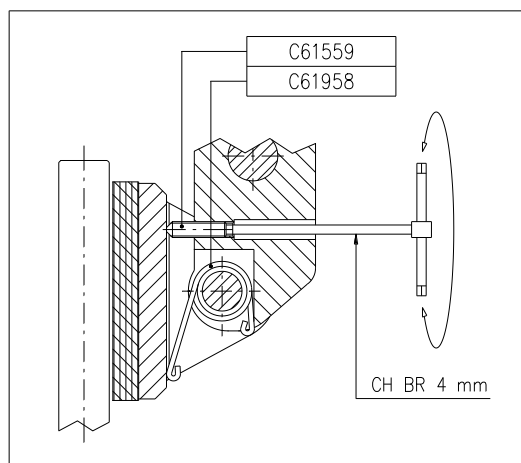

Figure 3
6. Adjust the brake shoes using the grub screw C61559 rotating it in the appropriate direction with a n. 4 Allen key; the friction surface of the brake linings must be parallel to the surface of the disc (Figure 3).
5. Realign the brake shoes as described in point 6 of Chapter 7 (Figure 3).
4. Reassemble the shoe following the sequence in point 2 in reverse order positioning the shoe alignment spring C61958 as indicated in Figure 3.
3. Remove the shoe alignment spring C61958 from its seat and replace it with a new one positioning it as shown in Figure 3.